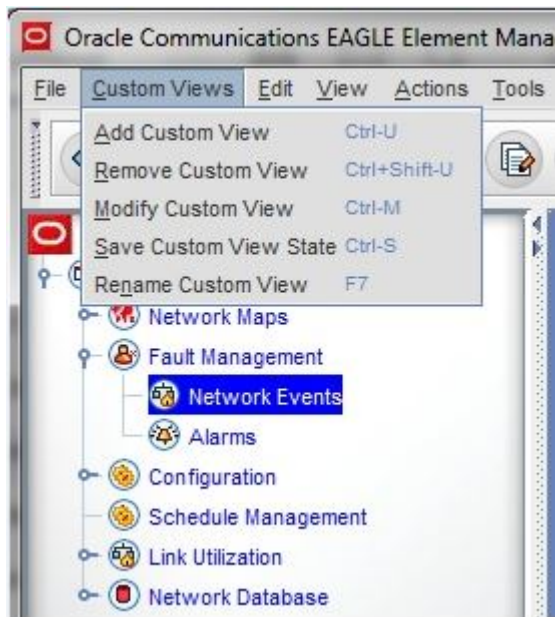

Figure 37: Custom Views Menu
- OCEEMS provides a provision for creating custom views, which is tailored for viewing a subset of data that satisfies specific criteria. Custom views are persistent in nature and can be created by each user for both the Alarms and Network Events views. In addition to the **Custom Views** pull-down menu shown in *Figure 37: Custom Views Menu*, OCEEMS also provides a right-click menu option on the **Network Events** and **Alarms** nodes under **Fault Management** in the left panel.